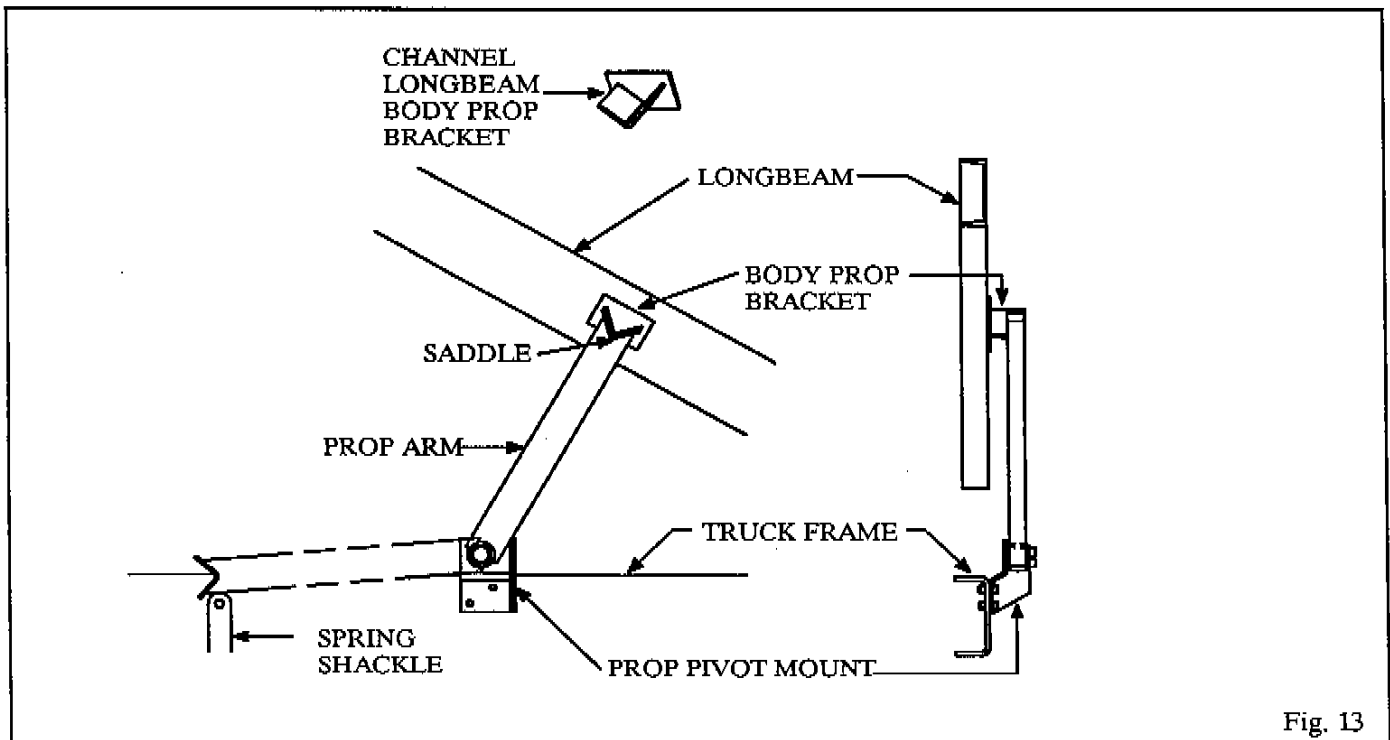

Fig. 13
3. Place the longbeam bracket assy in the body prop saddle. Raise or lower the body as needed to position the bracket on the outside of the longbeam where it will not interfere with the body prop when it is in the stored position and the body is down. Securely weld this bracket assy to the body (See Fig. 13.)